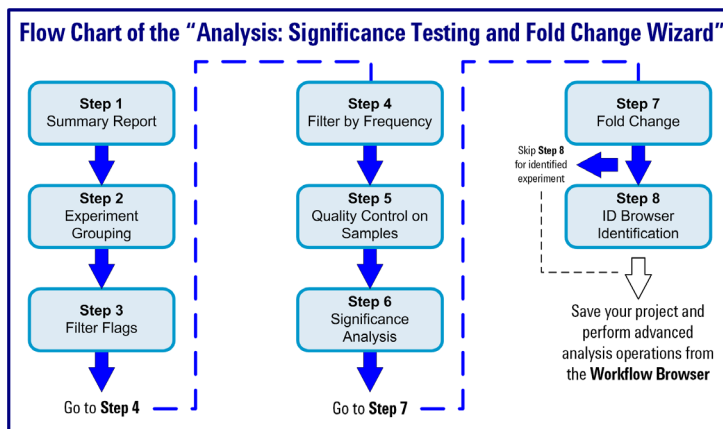

Figure 41 Steps performed by the Analysis: Significance Testing and Fold Change Wizard
The **Analysis: Significance Testing and Fold Change Wizard** guides you through the eight (8) steps to enter parameters and values that improve the quality of your results and produce an initial differential expression for your analysis. The steps performed during the **Significance Testing and Fold Change Wizard** are illustrated in Figure 41.